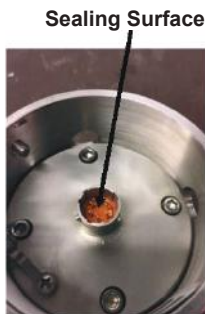

Figure 1
- PTIH-10-6P connector must have the Flat Face Interfacial Seal or O-ring as shown in **Figure 1**.
- Before Installing a mating connector **Figure 2** make sure the face of seal is clean of dirt, debris, and water. **Figure 1 and 2**.